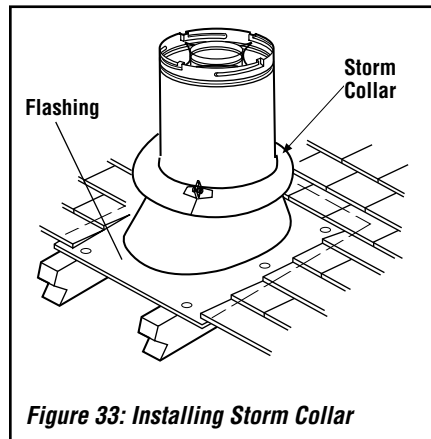

Figure 33: Installing Storm Collar
- Install roof flashing over the vent section (**Figure 33**), and position so the vent column rises vertically (use a carpenter's level).
Install the storm collar (supplied with the flashing) over the vent/flashing joint (see **Figure 33**):